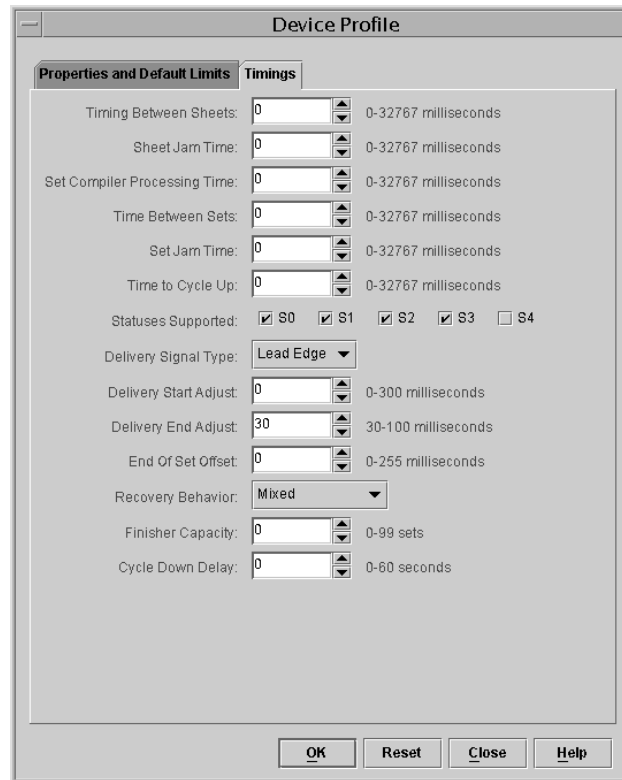

Figure 6-39 The Timings Screen
e. Click on the **Timings** Tab in the **Device Profile** Window. The **Device Profile** Window will display the **Timings** Screen, as shown in Figure 6-39.